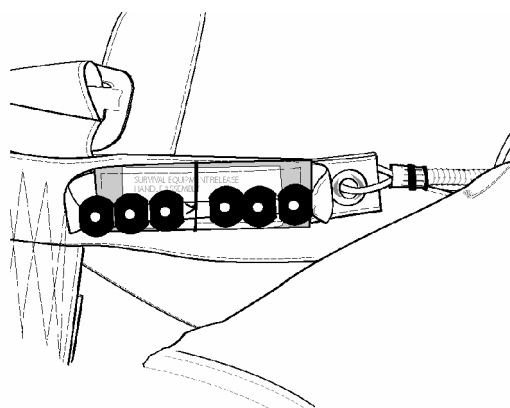
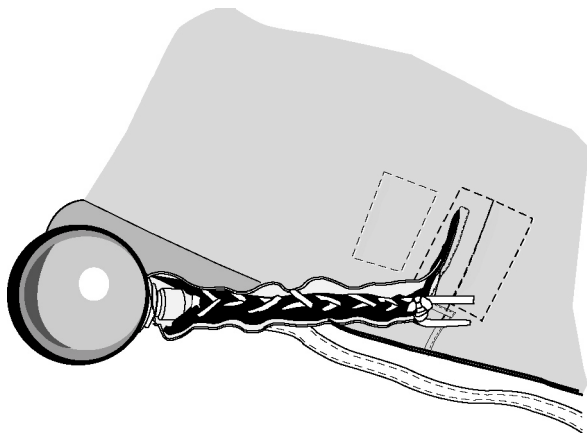
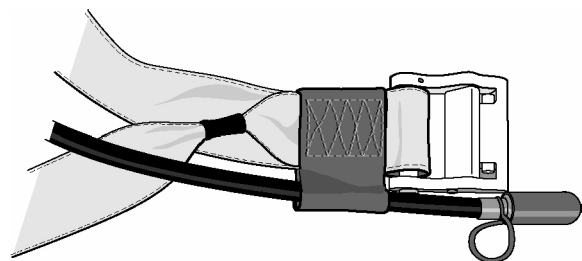

Figure 1. Tying Beaded Handle/Securing Handle to Fastener Tape
Figure 2. Green Apple Through Hole/Lacing Stowage Flute
Figure 4. Stowage Hose into Loop
a. Install Survival container beaded ripcord cable into cable housing and attach release handle to pile fastener tape on webbing (Figure 1).
b. Tie beaded handle together by splitting beads so there are 3 on each side. Pass one turn single E thread around beaded part and base of handle and tie off a surgeon's knot, followed by a square knot, followed by an overhand knot. Trim excess (Figure 1).
a. Ensure oxygen cylinder is charged prior to installation into the harness container assembly. (QA)
b. Install green apple through hole in right container flap #3 (Figure 2).
g. Route green apple cable housing into stowage flute. Start lacing stowage flute flaps together at the green apple end and work toward container using a 30-in. piece of Type I nylon cord. Tie off with a surgeon's knot, followed by a square knot, followed by an overhand knot. Cut off excess cord 1/2-in. from overhand knot (Figure 2).
h. Route oxygen hose along bottom of oxygen cylinder between cylinders flap and container equipment flap #1. Oxygen hose shall exit hole in left survival equipment container flap #2. Oxygen hose shall be routed over survival equipment ripcord cable housing. (QA)
i. Pass end of oxygen hose through hose stowage loop on the harness connection strap (Figure 4).